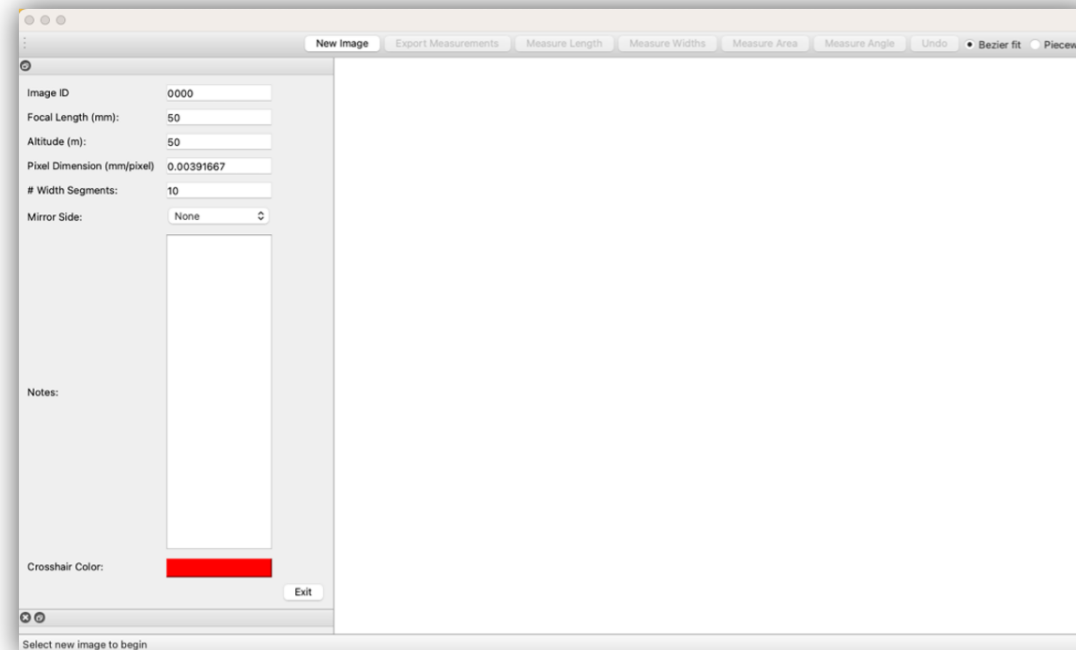

Figure 1. Opening MorphoMetriX
- Launch MorphoMetriX by opening the application (once opened it will look like Figure 1).